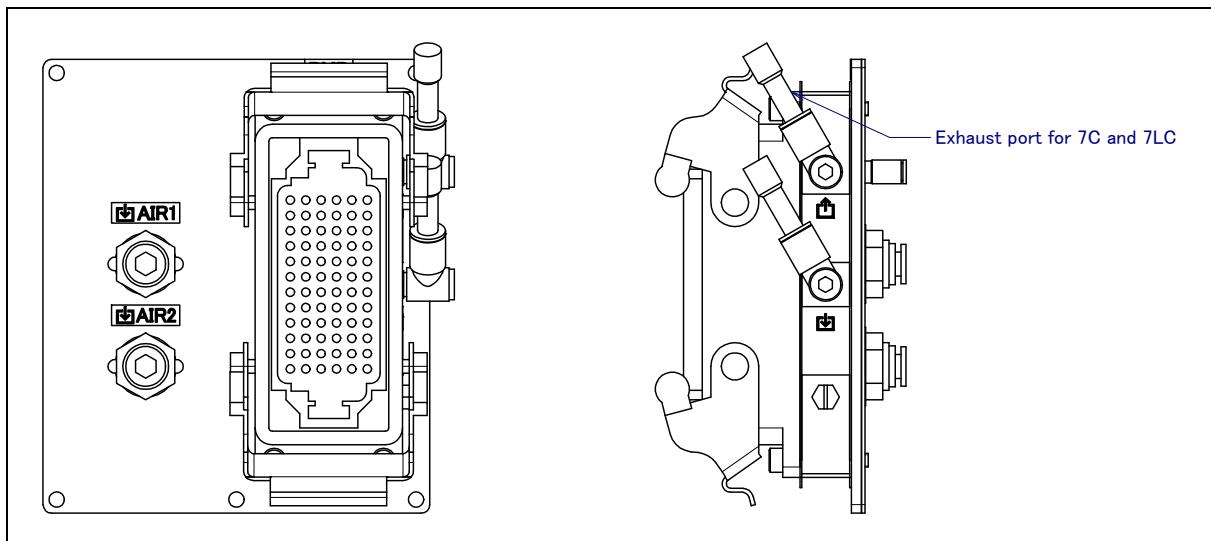

Fig. 5.1 (a) Exhaust port plug for 7C and 7LC
- 3 For 7C/7LC, remove the exhaust port plug before using it. (Fig.5.1 (a)) Air of the built-in solenoid valve exhaust port is exhausted from here. So connect the piping and exhaust it to outer of the clean room.